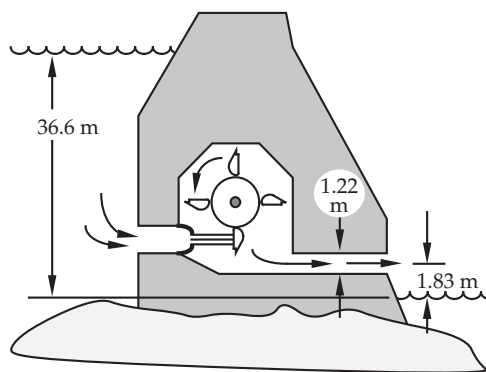

FIGURE P2.50.
50. One of the examples in this chapter involved calculations made to determine the power output of a turbine in a dam (see Figure P2.50). When the flow through the turbine was  $3.15 \text{ m}^3/\text{s}$ , and the upstream height is 36.6 m, the power was found to be 1.06 kW. The relationship between the flow through the turbine and the upstream height is linear. Calculate the work done by (or power received from) the water as it flows through the dam for upstream heights that range from 18.3 to 36.6 m.